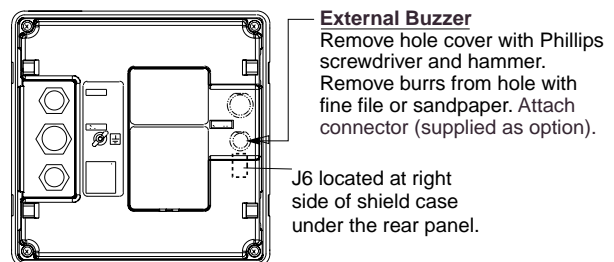

Figure 19 Display unit, rear view
2. Place the rear cover on a workbench, out side up. Remove the plastic hole cover from the location shown in Figure 19 with a Phillips screwdriver and a hammer. Remove burrs from the hole with a fine file or sandpaper.